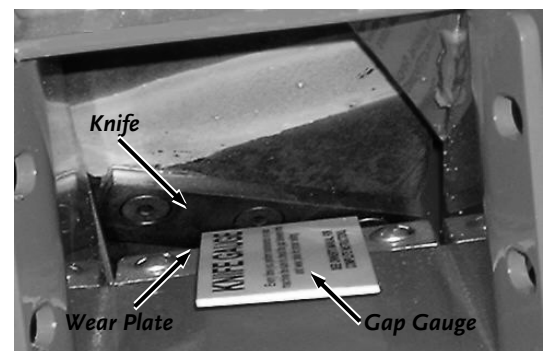

Figure 24
- Using a stick, rotate the Chipper Disk until the Knife is opposite the Wear Plate (**Figure 24**).
- Slide the Gap Gauge between the Knife and Wear Plate (**Figure 24**). If the gap is set correctly, the Gap Gauge will lightly touch both the Knife and Wear Plate. If the gap is too small, you will not be able to get the Gauge between the Knife and Wear Plate. If the gap is too large, there will be excess room between Gap Gauge, Knife, and Wear Plate.